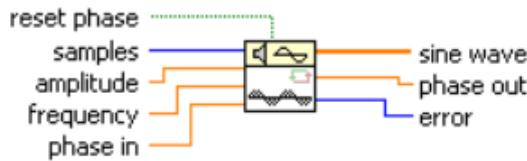

Fig.1. Sine Wave.vi
1. Create sine wave by using **Sine Wave.vi**. It is shown in Fig.1. Set the amplitude to 1. Create controls for samples and frequency. **Frequency input** should be **normalized with sampling frequency**. See help of Sine Wave.vi for more details. For **sampling rate change** operations, you can take phase value as 0. **Do not forget** to place your block in a **while loop**.